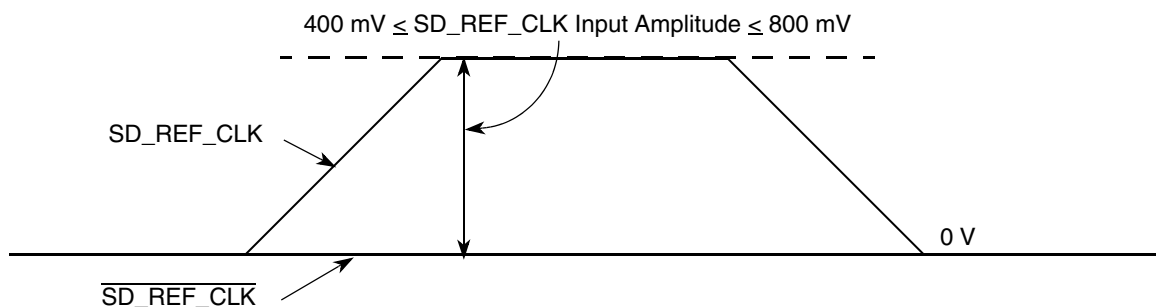

Figure 42. Single-Ended Reference Clock Input DC Requirements
- The SD_REF_CLK input average voltage must be between 200 and 400 mV. Figure 42 shows the SerDes reference clock input requirement for single-ended signaling mode.